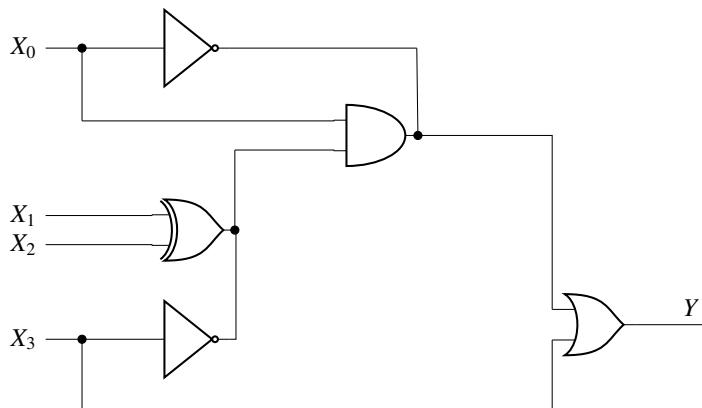

Fig. 3.31
50. In Fig. 3.31, the number of distinct values of  $X_3 X_2 X_1 X_0$  (out of the 16 possible values) that give  $Y = 1$  is \_\_\_\_\_. (GATE EC 2018)